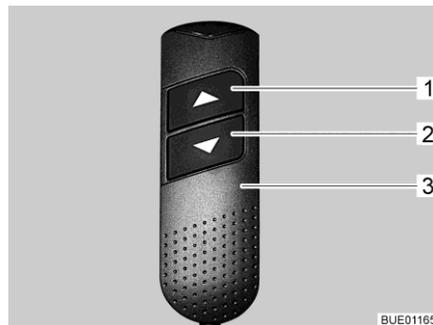

Fig. 101 Control unit (pull-down bed)
- On the control unit (Fig. 101,3) press both arrow keys (Fig. 101,1 and 2) simultaneously and keep them pressed until the pull-down bed has moved fully down. Once the button is released, a beep sounds to confirm.
*Opening the pull-down bed:* ■ On the control unit (Fig. 101,3), press the bottom arrow key (Fig. 101,2) and keep it pressed until the pull-down bed has moved down into its end position.
*Closing the pull-down bed:* ■ On the control unit (Fig. 101,3), press the top arrow key (Fig. 101,1) and keep it pressed until the pull-down bed has moved up into its end position.
- Use the arrow keys (Fig. 101,1 or 2) to move the pull-down bed in the opposite direction.